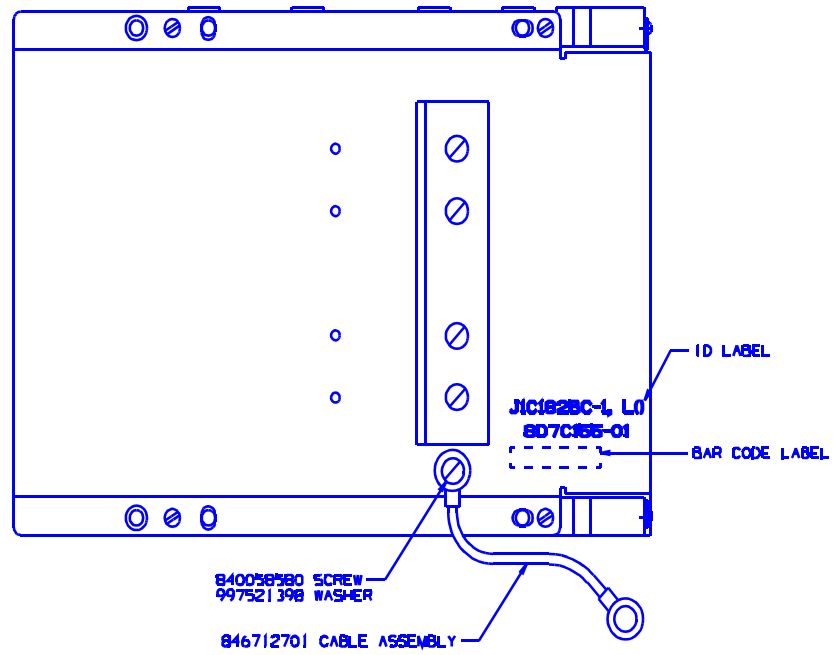

Figure 2-6. Left Side of the J1C182BC-1, List 3 Remote Terminal Ring Shelf
3. Locate the ID LABEL on the left side of the ring shelf. Refer to Figures 2-6 and 2-7.
12. Locate the ground strap attached to the left side of the ring shelf (Figure 2-6) and connect it to the bay frame at an unpainted spot or with a thread-cutting screw. Scratch the paint on the rack if necessary.